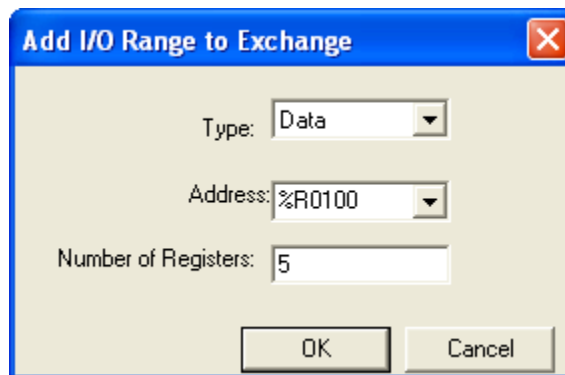

Figure 6.16 – Produced Exchange 2 Data Block Definition – Node 2
3. Click on the **Add Range** button, in the EGD Configuration dialog, to define a Data Block for Produced Exchange 2. Then fill in the parameters, as shown in Figure 6.16 below, and click **OK**.